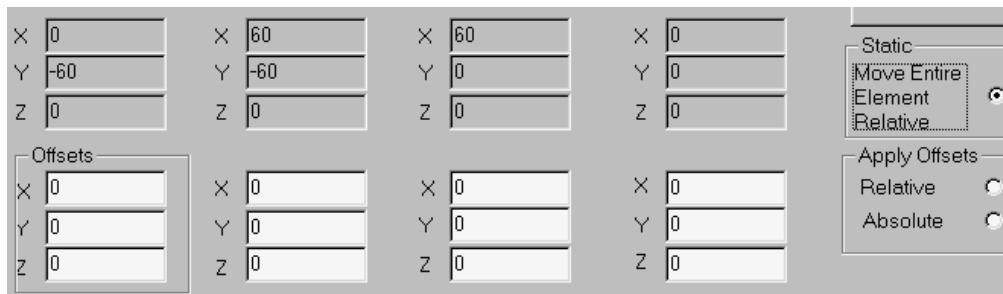

Figure 6 - 3
- **Static** – *Structural Desktop* will interpret a click in the frame of the checkbox labeled **Move Entire Element Relative** as your intent to move as a unit. The **Offsets** boxes will change to appear as in **Figure 6 - 3** below: